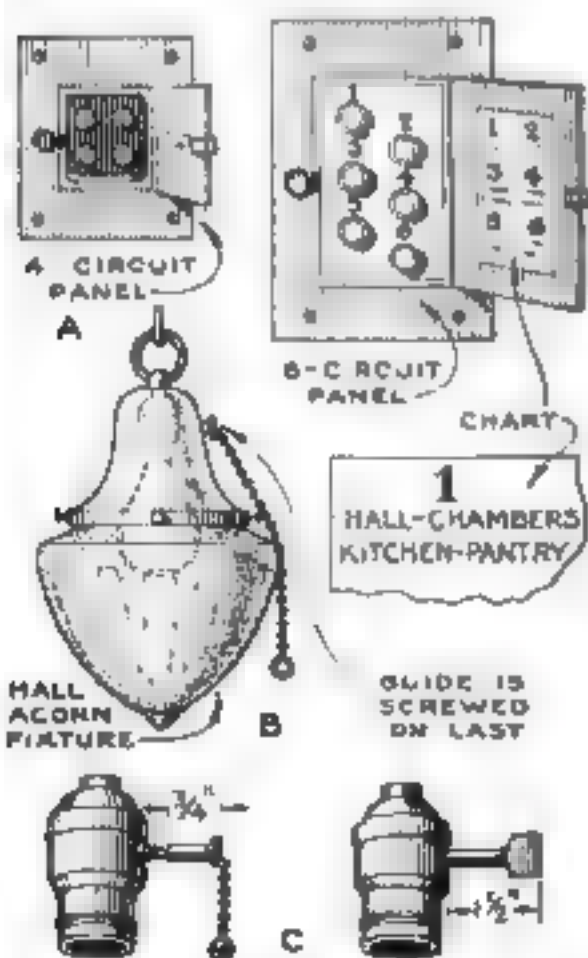

Fig. 3. Convenient ball fuse-panel boards, an extension chain guide, and a long key.
It is now possible to obtain very compact and neatly designed flush-type fuse-panel boards, as shown at A, Fig. 3. If one of these is installed in the wall in a hall or other accessible place, the changing of fuses becomes an easy task when a blow out occurs. A chart pasted on the door on the inside, with numbers corresponding with the fuses in the panel, tells which fuse controls the circuit in question.
*How can the unsatisfactory operation of a pull socket be overcome when it is used with a wide socket cover like that sketched at B in Fig. 3?*
Pull-chain sockets are supplied with extra long guides (B and C, Fig. 3) to carry the bead chain out far enough to clear the edge of the cover. Such a guide allows the chain to be pulled easily and smoothly. Key sockets with extra long keys (also shown at C, Fig. 3) are obtainable for the same purpose.